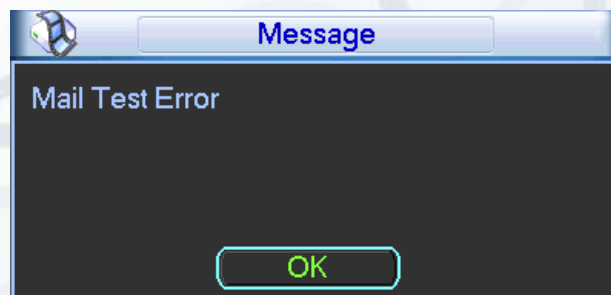

Figure 4-46
- **Interval:** Please check the above box to enable this function and then set the corresponding interval. The System can send out the email regularly as you set here. Click the Test button; you can see the corresponding dialogue box to see the email connection is OK or not (see Figure 4-46).